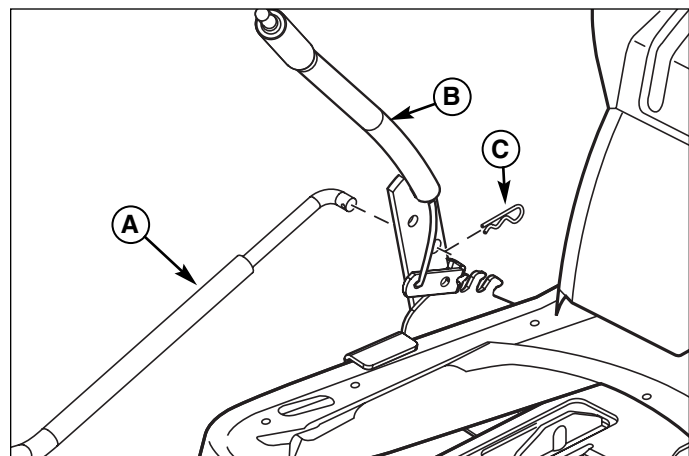

Figure 9. Install Lift Rod
3. Slide lift rod (A, Figure 9) into the bottom hole in the lift lever assembly (B). Secure with hair pin. Install front attachment & hitch as outlined in Operator's Manual or Installation Instructions.
Note: Substitute lift rod A, Figure 9 for the lift rod provided in the attachment hitch.